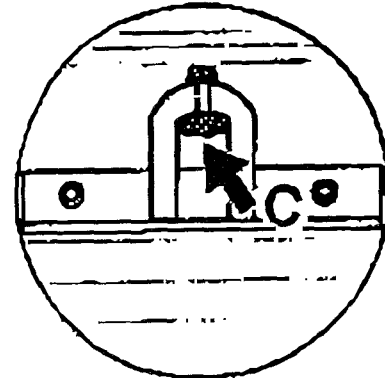

Figure 9
- If missing, install a new rubber stop using soapy water or Vaseline. Slide the thin side of the stop from the bottom into the hole using a screwdriver (arrow C, Figure 9).